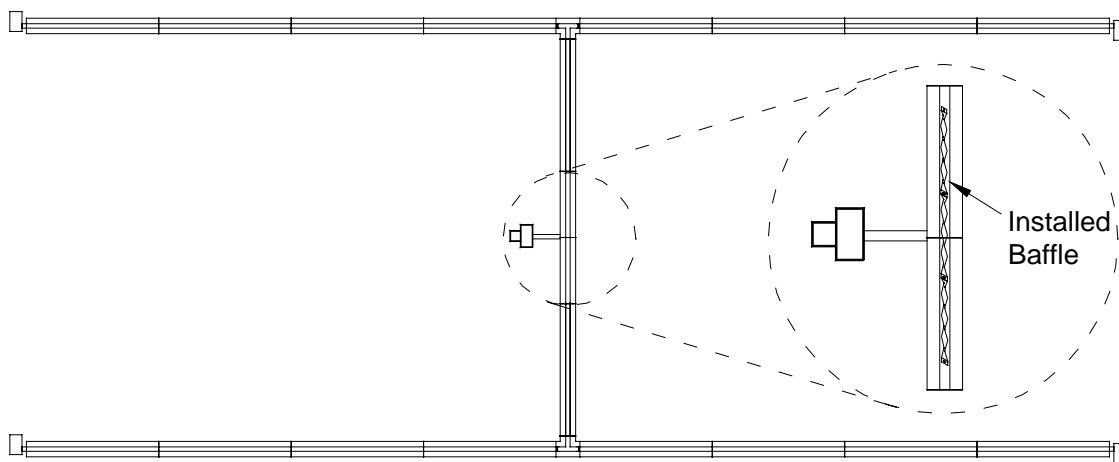

Figure 3-8
1. All systems include 99" of baffle. Baffle must be installed as close to the pump as possible in the section of tubing that allows insertion of the entire length of baffle. Refer to figure 3-8.